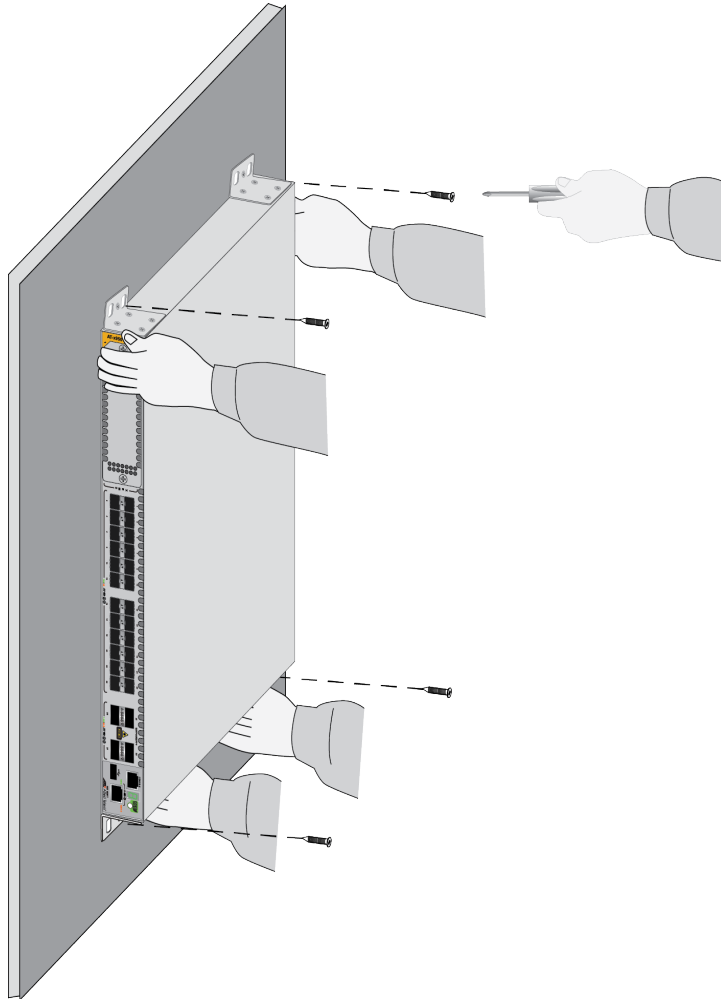

Figure 78. Installing the Switch on a Concrete Wall
7. Have two people hold the switch at the selected wall location while you secure it to the wall with the four provided screws. Refer to Figure 78.